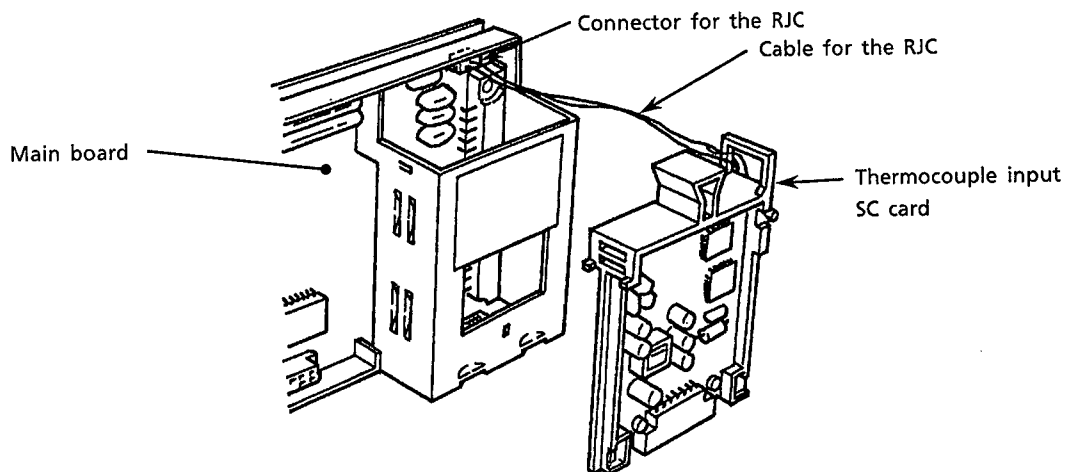

Figure 11.7 Detaching the Connector for the RJC
- ③ For the thermocouple input SC card, disconnect the connector for the RJC (see Figure 11.7).
(2) How to Attach
- ① Along the guides on the left and right, mount a new SC card by performing the reverse of the steps for (1) "How to Detach" above.
- ② When installing the thermocouple input SC card, bind and push in the cable for RJC.